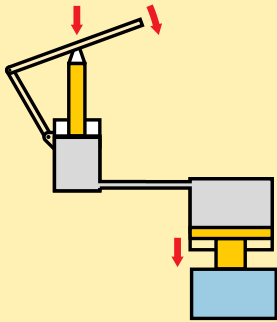

Figure 1: Operating principle of a hydraulic clamping device
1.1 A simple hydraulic clamping mechanism (Figure 1).